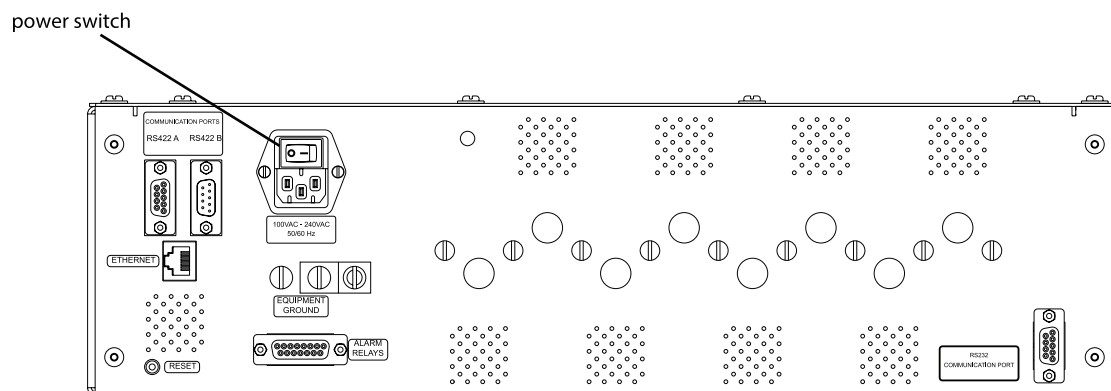

FIGURE 15. ASM-1 Smart Manifold Power, Communications Connections.
The ASM-1 Smart Manifold uses a standard NEMA 5-15P to IEC 320 C13 power cord (included; Part Number 17618). Place the power switch in the Off (O) position before connecting the power cord (Figure 15).
The Smart Manifold serial ports use standard DB-9 connectors. Refer back to Figure 15. Pin outs for the RS-232 are shown in Table 1 below and for the RS-422/485 in Table 2. The Ethernet port uses a standard RJ-45 connector and can use CAT-5 or CAT-5E UTP cable. The alarm relays use a female DB-15 using the pin outs (Table 3). The ASM-1 Smart Manifold Ethernet communications run at 10Base-T data rate and half duplex. It is recommended that the network interface to the ASM-1 Smart Manifold is manually set to these parameters and NOT to an auto-configure mode.